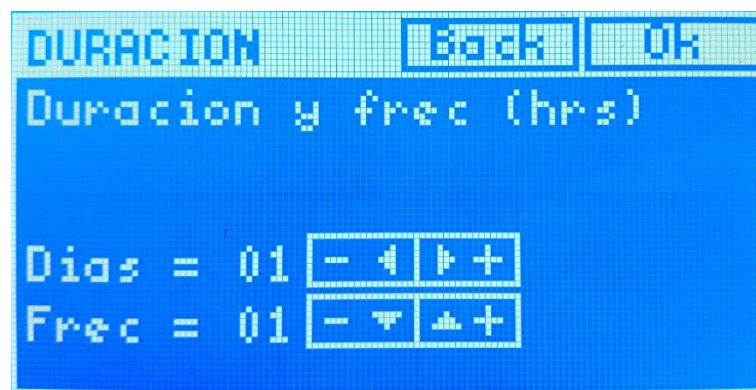

Figure 10- Duration Screen
5. Select the number of days with the **→** and **←** buttons (in case you have chosen the “Daily” option in step 7) or the number of weeks (in case you have chosen the “Days x week” option in step 7) like this as the frequency in hours with the **↑** and **↓** buttons to dispense the pill (Figure 10) and press the **Ok** button to advance to the next screen.